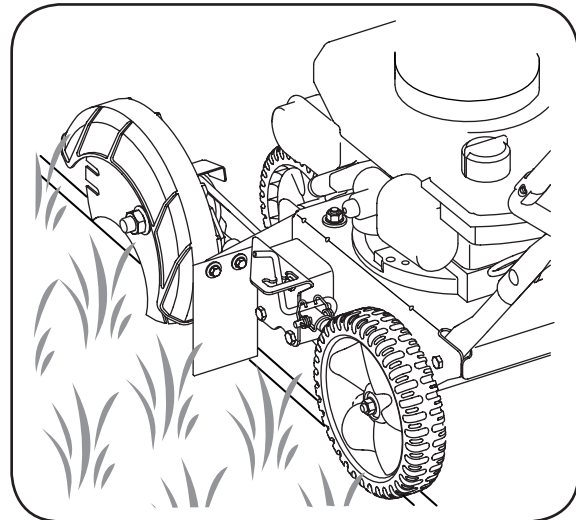

Figure 4
1. Move the unit over to the area to be edged, making sure that the left rear wheel is on a hard surface and the blade is over the area to be cut. See Figure 4.